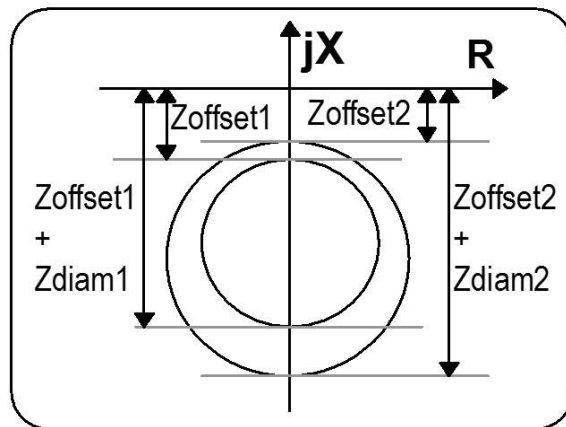

Figure 1-1 R-X impedance plane with the protective zones of the loss-of-field function.
The loss-of-field is based on 2 zones. When the generator loses its field, the positive sequence impedance seen from the stator goes into the loss-of-field protection zones shown in Figure 1-1.
- ❑ **Zone 1 diameter**: Zdiam1 in Figure 1-1. Diameter of Zone 1 in ohms.
- ❑ **Zone 1 offset**: Zoffset1 in Figure 1-1. Offset of the circle of Zone 1 in ohms.
- ❑ **Zone 2 diameter**: Zdiam1 on the Figure 1-1. Diameter of zone 2 in ohm.
- ❑ **Zone 2 offset**: Zoffset1 on the Figure 1-1. Offset of the circle of zone 2 in ohm.